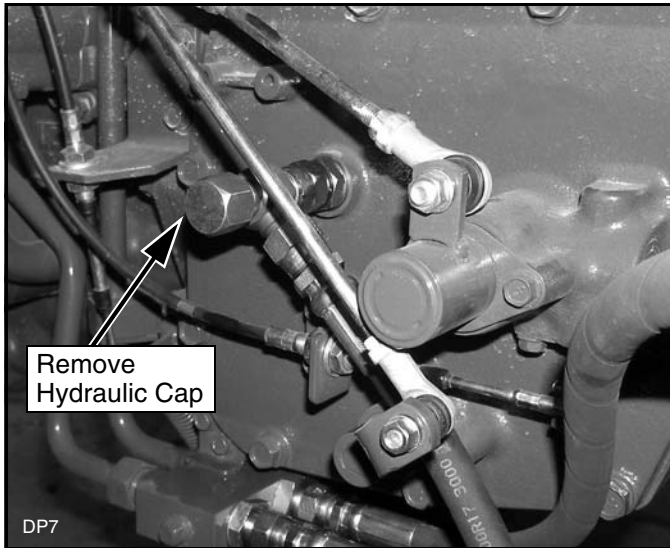

Figure 12. Remove Hydraulic Cap (Typical)
4. Locate the hydraulic tee on the right side of the tractor and remove the hydraulic cap (Figure 12).